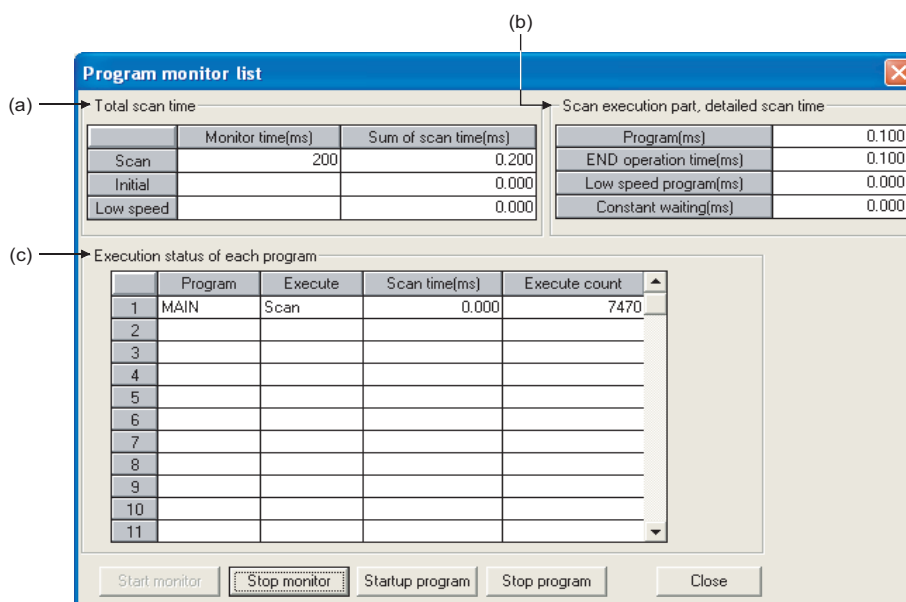

Figure 6.49 Program monitor list screen
Figure 6.49 shows an example of executing the program monitor list.
(3) Program start  Note6.11
Clicking the **Startup** button on the screen shown in Figure 6.49 ( (2) in this section) opens the Startup program screen.
(4) Program stop Note6.13
Clicking the  button on the screen shown in Figure 6.49 ( (2) in this section) opens the Stop program screen.